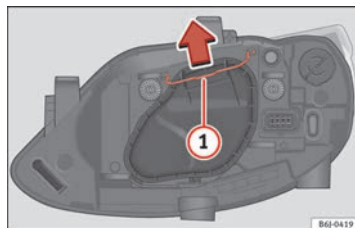

Fig. 158 Dipped beam/main beam, single headlight.
- Move the loop ⇒ Fig. 158 ① in the direction of the arrow and remove the cover.